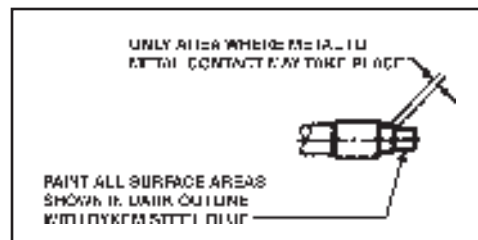

Fig. 4
1. Referring to Figure 4, paint the clean dry surfaces of the gauge plug as shown with machinists ink, such as Dykem steel blue (Note 1).